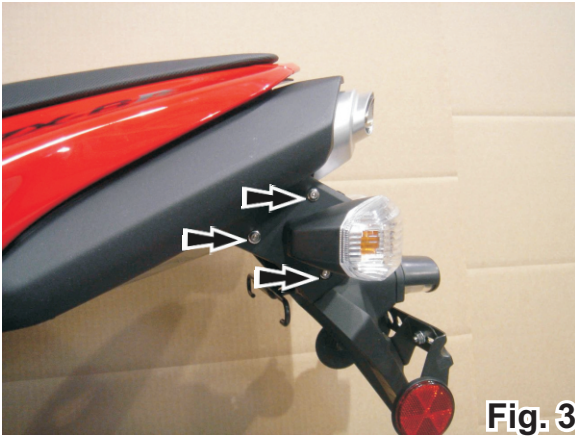
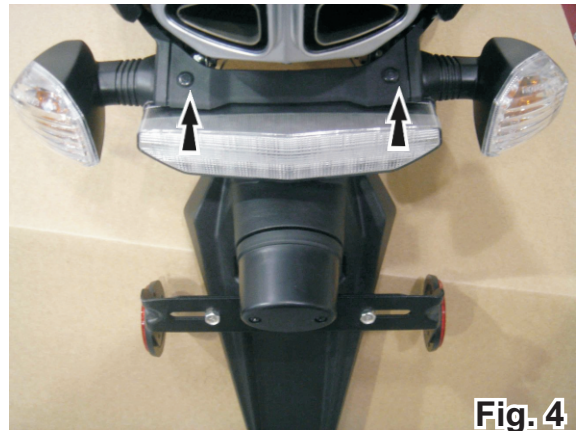
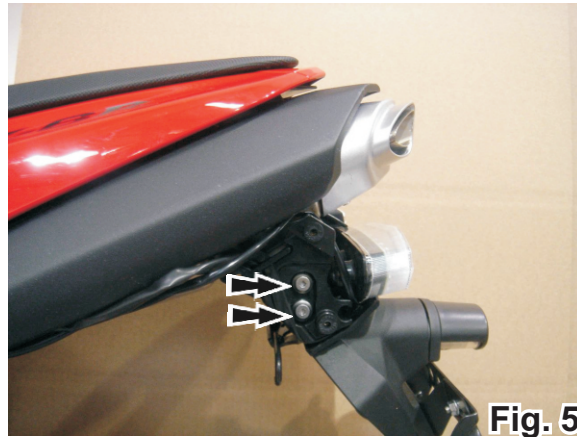

Fig. 3
Fig. 4
Fig. 5
- 4 Remove rear turn signals by removing the 3 bolts on each side as shown in Figure 3. Remove Fender Cover by removing the 2 two plastic clips as shown in Figure 4. Remove rear fender and taillight assembly by removing the 2 bolts on each side as shown in Figure 5.